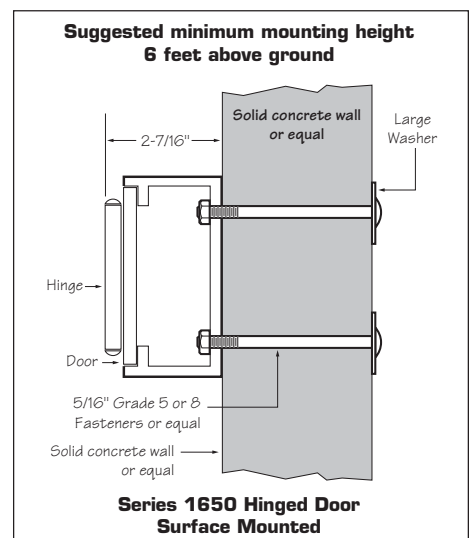

Figure 1
1. Always mount KNOX-BOX to a secure, solid wall, beam or post in an area sheltered from excessive moisture (see Figure 1). Consult your fire department for other mounting requirements such as height and placement on the building. A six-foot height is recommended to resist vandalism.
3. After using a small level to plumb the box square, install the box using at least four (4) Grade 5 or 8 fasteners (carriage bolts, etc.) of 5/16" diameter. Units must be mounted on solid studs or steel supports, or they may be welded into place. **DO NOT MOUNT FACE DOWN FROM CEILING OR OVERHANG.** This position may cause contents to jam lock.